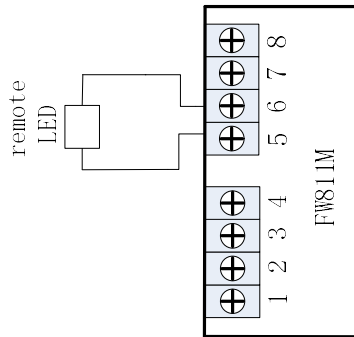

Figure 3 Wiring Diagram (Input Line Circuit)
3. Connect the remote LED indicator. See Figure 3. Note: The remote LED indicator shall be located in the same room as FW811M.